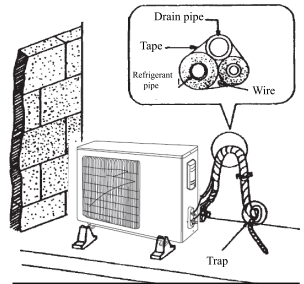

Fig.64
If the outdoor unit is installed higher than the indoor unit (See Fig.64).
- All pipes are bound and taped together and also should be trapped to prevent water from returning to the room (See Fig.64)